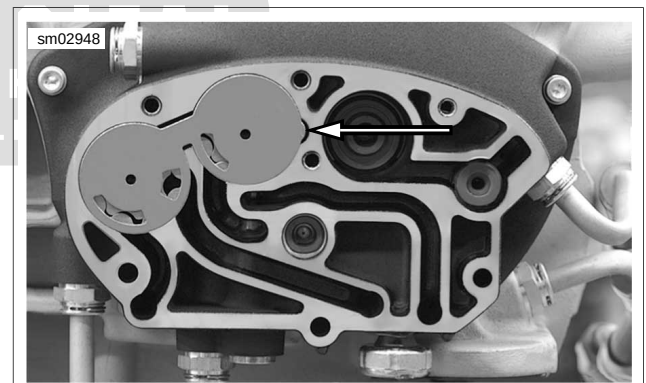

Figure 3-94. Oil Pump Separator Plate
4. See Figure 3-94. Install the separator plate.